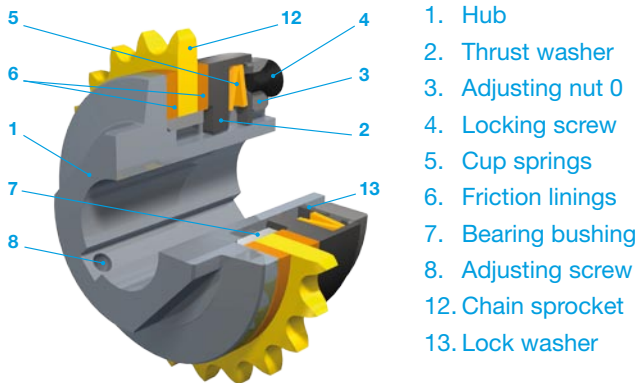

Fig. 2 Type 100.110, Sizes 0 – 5
The drive element (12) (chain sprocket or V-belt pulley) is placed on the bushing (7) as shown in Figure 2 and clamped between the friction linings (6) with the aid of the thrust washer (2), the cup springs (5) and the adjusting nut (3) with the lock washer (13). The more powerfully the cup springs (5) are compressed by the adjusting nut (3), the higher the torque at which the drive element (12) slips. The precise torque adjustment operation is described on page 21.